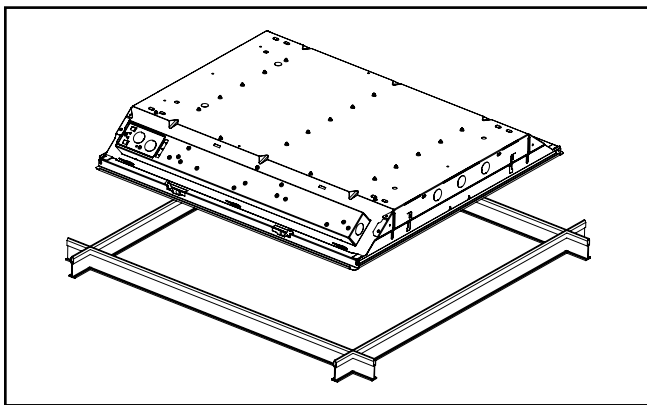

Figure 1.
2. Install the luminaire into the ceiling T-grid system. Ensure that the luminaire sits snugly in T-grid system. (Figure 1)